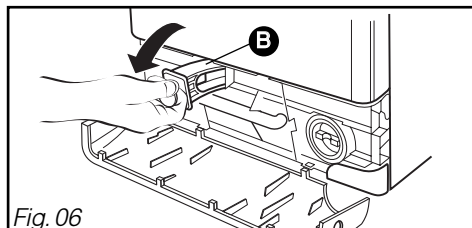

Fig. 06
- Remove the "front" brace (Fig. 06).